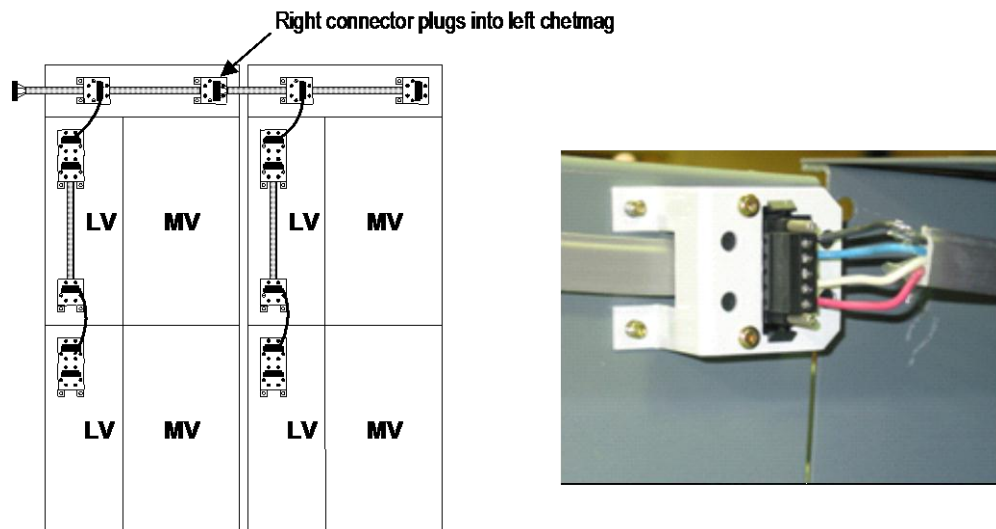

Figure 4.1 – Joining the DeviceNet Trunk Line in Adjacent MV Sections
2. To link the DeviceNet trunk lines between separate sections, connect the linking plug from the right section into the left section linking receptacle (chetmag). Refer to Figure 4.1. Torque connector screws to 5 lb.-in. (0.6 Nm).